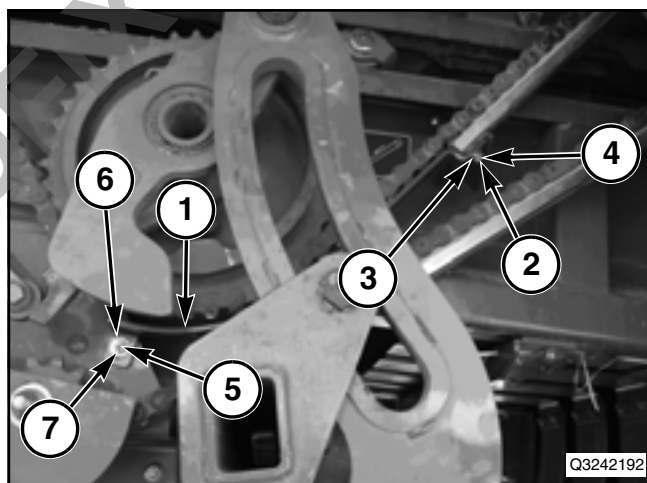

FIG. 27
FIG. 27: Install chain guide (1). Install the 3/8-16 x 1-3/4 in countersunk cap screw (2) through the upper end of the chain guide and the lower hole in the existing chain guide and chain guide support. Install the 3/8 in wide plain washer (3) and the 3/8-16 hex flange top lock nut (4) that you removed.